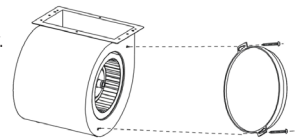

Figure 5
- Position the Charcoal Filter onto the side of the Blower, aligning the mounting screws, turn until it locks. Re-install the grease filters. (Figure 5 and Figure 6)